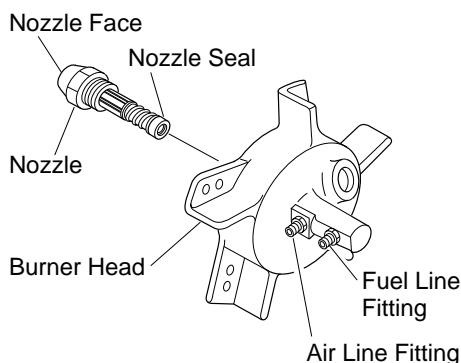

Figure 19 - Removing Nozzle
8. Carefully remove nozzle from burner head using 5/8" socket wrench (see Figure 19).